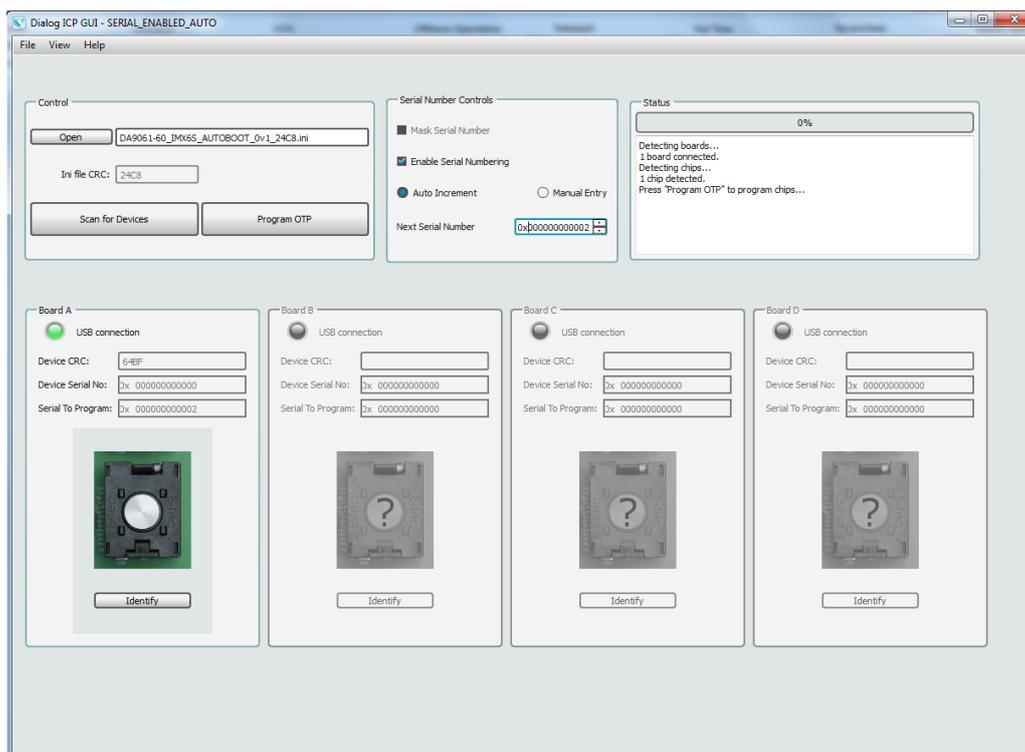

Figure 7: In-Circuit Programmer: Board A Ready to Program
- b. Press Scan for Devices: blank devices should be recognized and appear green (Figure 7). A question mark (?) means the DUT is not ready for programming